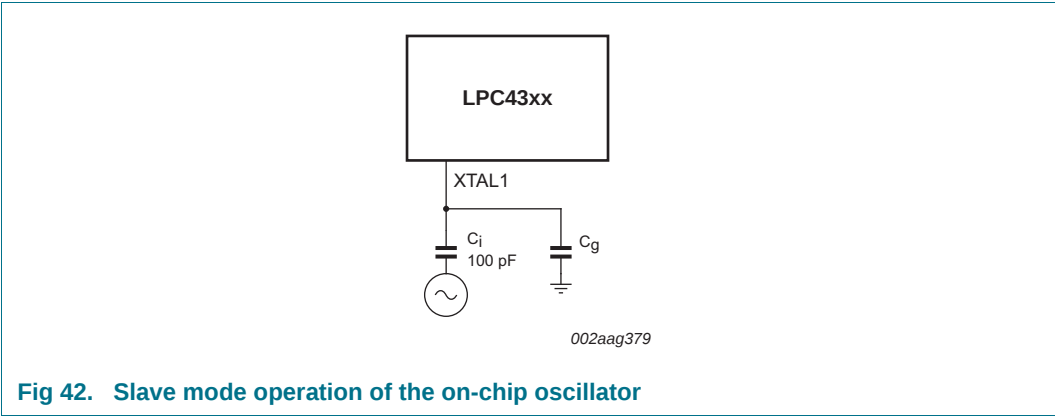

Fig 42. Slave mode operation of the on-chip oscillator
- In slave mode, couple the input clock signal with a capacitor of 100 pF (C_C in Figure 42), with an amplitude of at least 200 mV (RMS). The XTAL2 pin in this configuration can be left unconnected.
An external clock can be connected to RTCX1 if RTCX2 is left open. The recommended amplitude of the clock signal is $V_{i(\text{RMS})} = 100$ mV to 200 mV with a coupling capacitance of 5 pF to 10 pF. $V_{i(\text{RMS})}$ must be lower than 450 mV. See Figure 42 for a similar slave-mode set-up that uses the crystal oscillator.